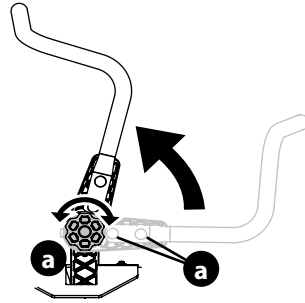

Figure 7
1. Rotate the knob (a) counter-clockwise to loosen the knob (a) (Figure 7).
3. Rotate the knob clockwise to secure the lapbar drive control lever into position (Figure 7).
4. If the lapbars do not line up after making the knob adjustment, loosen nuts (b), align lapbars and retighten nuts. Once this fine adjustment is made, the lapbars will align when using the knob adjustment (Figure 7).